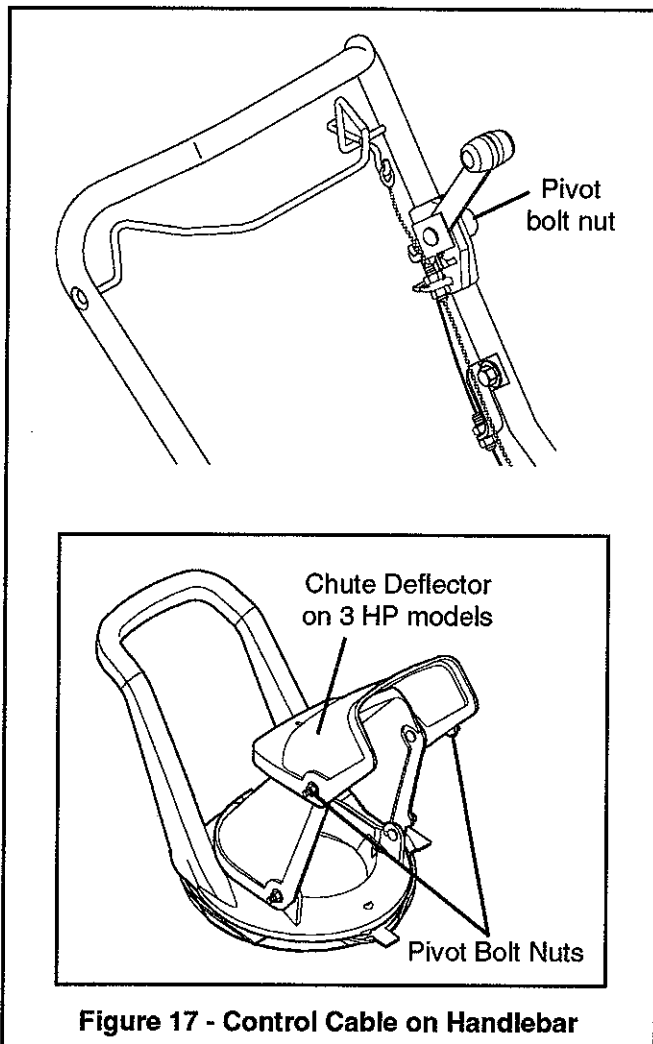

Figure 17 - Control Cable on Handlebar
1. Adjust chute deflector control lever pivot bolt nut until the control stays in position. Figure 17.
4. Lock in position by adjusting and tightening nuts against bracket. Figure 17.